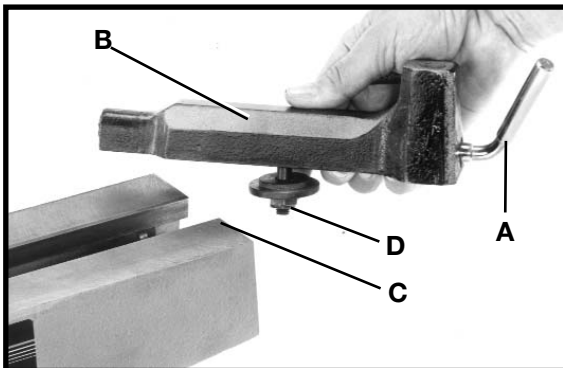
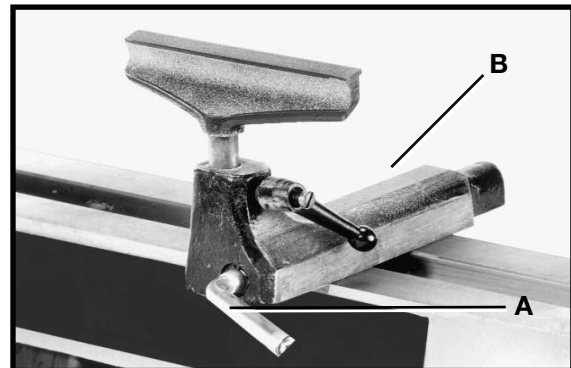
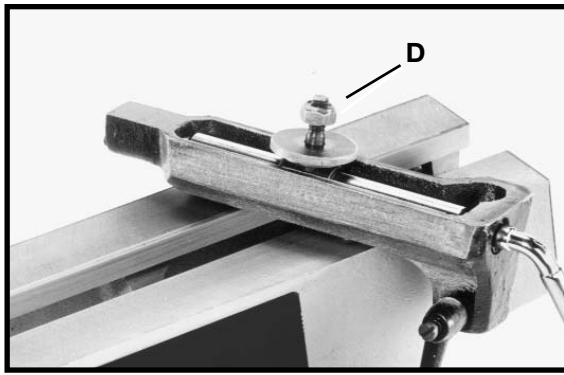

Fig. 4
Fig. 5
Fig. 6
1. Loosen locking lever (A) Fig. 4 and slide tool rest base (B) into the channel of lathe bed (C). **NOTE:** If the tool rest base will not slide easily inside the channel of the lathe bed, turn the tool rest base over and loosen locknut (D) Fig. 4, located at the underside of the tool rest base. Tighten locking lever (A) Fig. 5 to clamp the tool rest base (B) securely on the lathe bed.
2. **IMPORTANT:** If clamping action on the tool rest base (B) Fig. 5 is too tight or too loose on the lathe bed, remove the base and turn nut (D) Fig. 6 clockwise to tighten clamping action, or counterclockwise to loosen clamping action. Attach the tool rest base on the lathe bed.